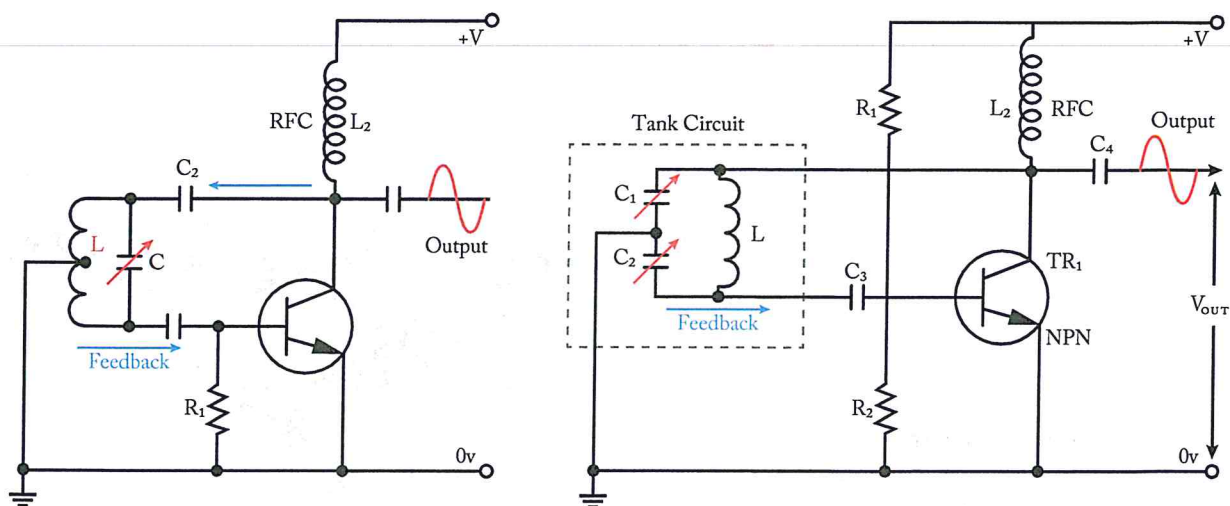

Figure 1-79. Hartley oscillator (left) and Colpitts oscillator (right).
The popular Hartley oscillator (*Figure 1-79 left*) has an automatic bias control feedback circuit using a tuned inductor-capacitor (LC) tank circuit connected between the collector and the base of the transistor. The emitter is connected to the tapping point on the inductor coil. The feedback loop of the tank circuit is taken from the center tap of the inductor to feed a fraction of the output signal back to the emitter. Since the output of the emitter is always in phase with the output of the collector, the feedback signal is positive. The frequency range of the oscillator is determined by the resonant frequency (f_R) of the tank circuit, which can be adjusted by varying the capacitance of the tuning capacitor. For example, if the inductor (L) is 1mH and the capacitor (C) can be adjusted between 100pf and 500pf, the frequency range of the oscillator can be determined using the following formula:
Another popular oscillator circuit is the Colpitts oscillator as shown on *Figure 1-79 right*. The distinguishing feature of the Colpitts oscillator is that the feedback is taken from a voltage divider made up of two capacitors in series across the inductor in the tank circuit. Resistors R1 and R2 provide the usual stabilizing DC bias for the transistor, while the additional capacitors act as a DC-blocking bypass capacitors. A Radio-Frequency Choke (RFC) is used in the collector circuit to provide a high reactance at the frequency of oscillation, and a